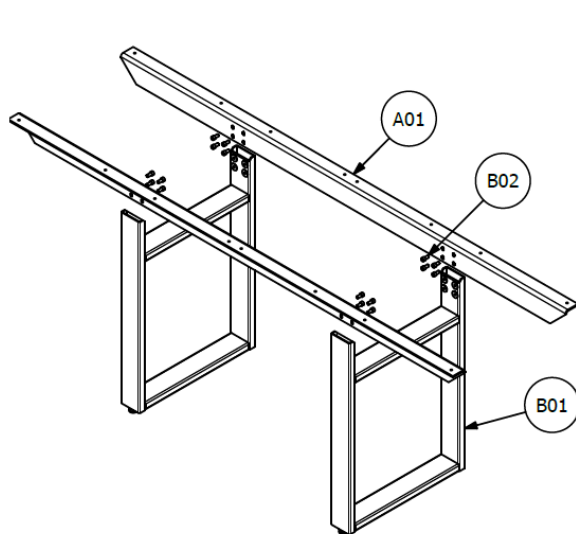
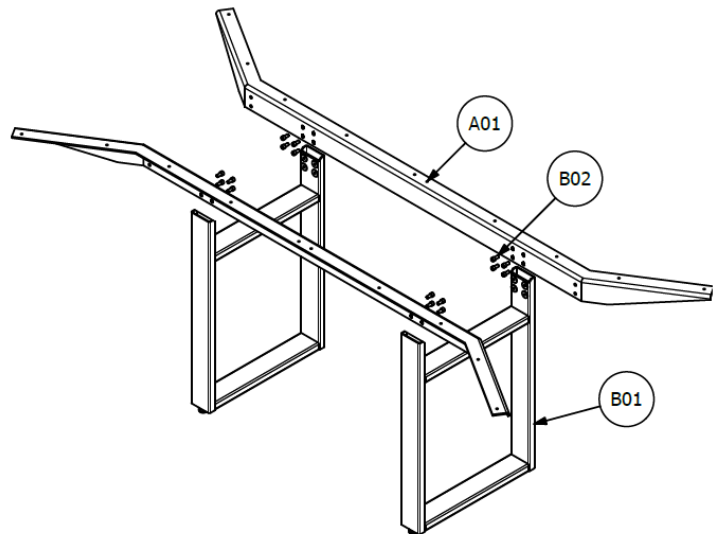

FIG. 03: TABLE RAILS (STRAIGHT) TO END BASES
FIG. 04: TABLE RAILS (ANGLED) TO END BASES
2. At each end of the rail pair, assemble Bases (B01) using Fastener (B02), 8 places each base. See Figure 03 for straight rail tables and Figure 04 for angled rail tables used with Power Drawer option.